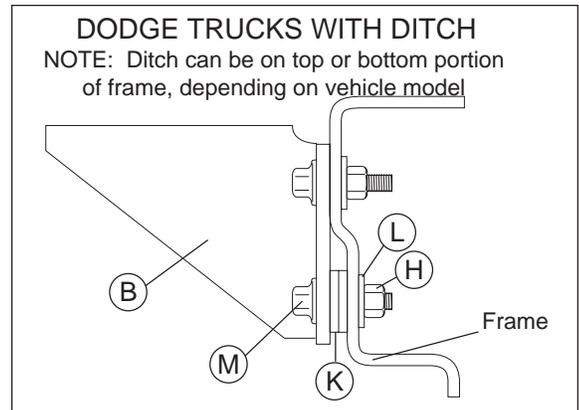

Figure 11
For Dodge trucks only: The top two or the bottom two holes (depending on the model of the truck) will fall into a horizontal indentation. Spacers are provided to compensate for the indentation. Loosely install a washer head frame bolt (M), two upper bracket spacers (K), an oversized flat washer (L), and a lock nut (H) for such instances (Figure 11).
4. Install a washer head frame bolt (M), oversized flat washer (L), and lock nut (H).
For Dodge trucks only: It may be necessary to add two of the provided spacers (K) (Figure 11).